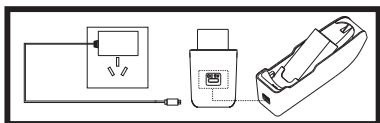

Figure 16
4. Charge the product through a power adapter as shown in figure 16 and the product starts charging.